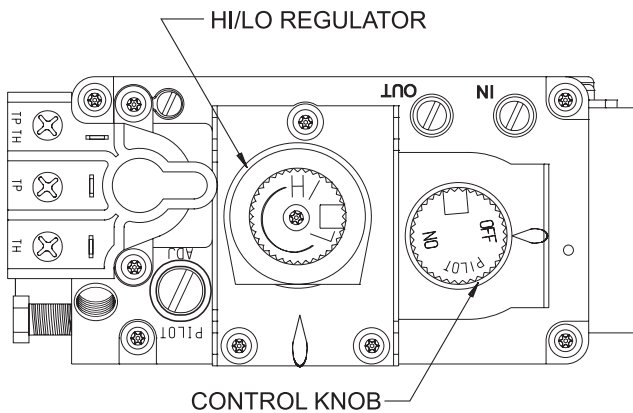

Figure 72
**NOTICE:** The gas control valve allows you to increase or decrease the height of the main burner flame. The control valve has a pressure regulator with a knob as shown in **Figure 72**. Rotate the knob clockwise to "HI" to increase the flame height and counterclockwise to "LO" to decrease the flame height.